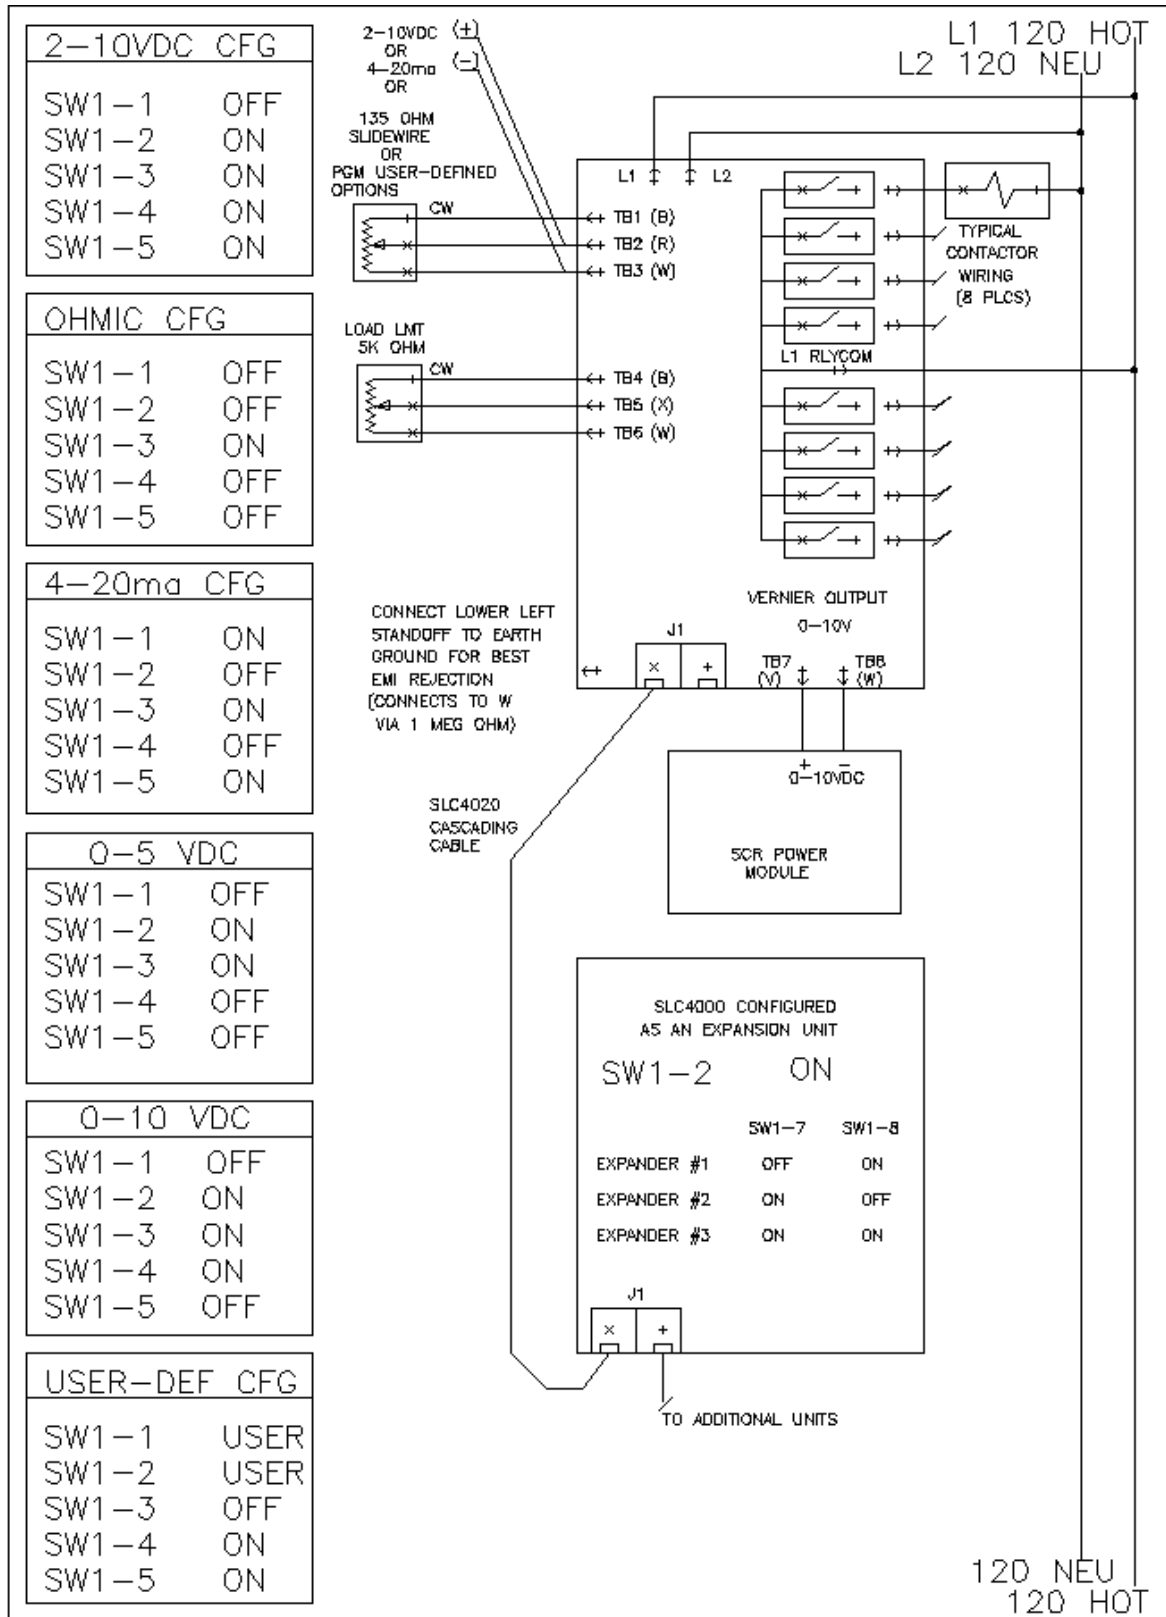

Figure 4 FIELD WIRING DIAGRAM
Connect the integral vernier output to a suitable SCR power module or any other device which accepts 0-10 VDC, being careful to observe correct polarity. Refer to Figure 4, Field Wiring Diagram.
- Verify that the wiring is in accordance with Figure 4, Field Wiring Diagram.
| Output stages turn on, but the contactors do not energize. | No connection to TB109, which is the common terminal for all the relay contacts. It is normally connected to the coil voltage source. | Wire per Figure 4 verifying a matching contactor coil voltage. |